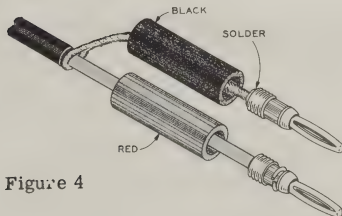

Figure 4
- () Refer to Figures 4, 5 and 6. Select the type of terminals best suited to your oscilloscope's input connectors. Install the connector of your choice as shown in the Figure.